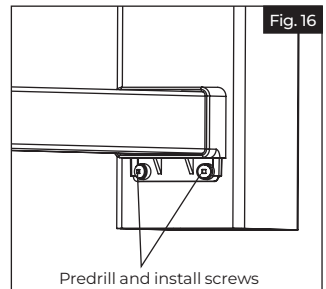

Fig. 16
- b. Install the #10 x 2" square drive screws (Fig. 16).